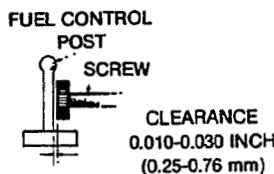

FIGURE 65. FUEL SOLENOID ADJUSTMENT
- Adjust fuel solenoid plunger so that a 0.010 to 0.030 inch (0.25 to 0.76 mm) clearance exists (see Figure 65) between the plunger adjustment screw and the fuel control arm with the solenoid in de-energized position. To adjust the plunger length, hold the plunger and adjust the screw on the plunger lever pin at the fuel shutoff position. Retighten locknut.